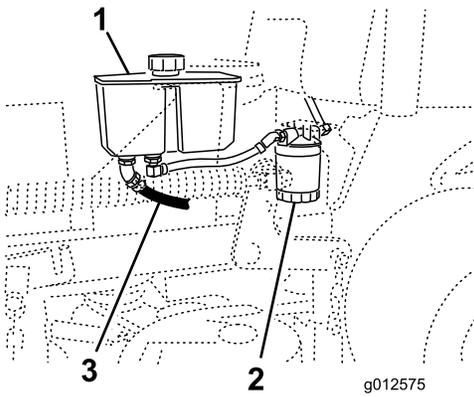

Figure 73
4. Locate the front hydraulic hose under the hydraulic tank and place a drain pan under the tank (Figure 73).